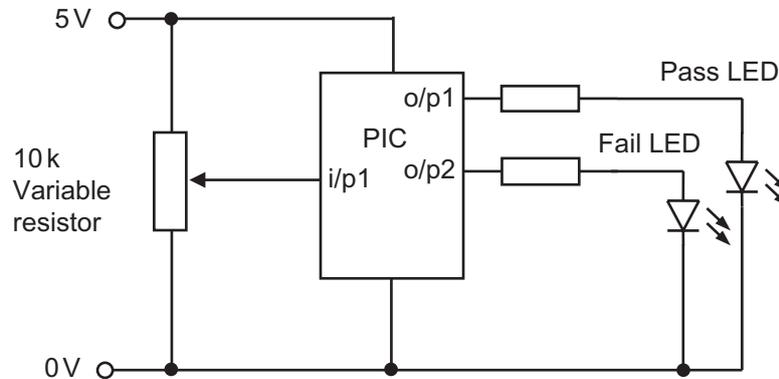

Fig. 2(c)
The additional PIC based circuit which is shown in **Fig. 2(c)** utilises V_o from the variable resistor in **Fig. 2(b)**. One of two LEDs will be illuminated, the pass LED indicating a component of the correct height and the fail LED indicating an undersized component.
- (i) The PIC shown in **Fig. 2(c)** has an analogue input port (i/p1) with a voltage range from 0V to 2.5V and a digital equivalent range from 0 to 255. Calculate the digital values that correspond to input port voltages of 750mV and 1.25V. [2]